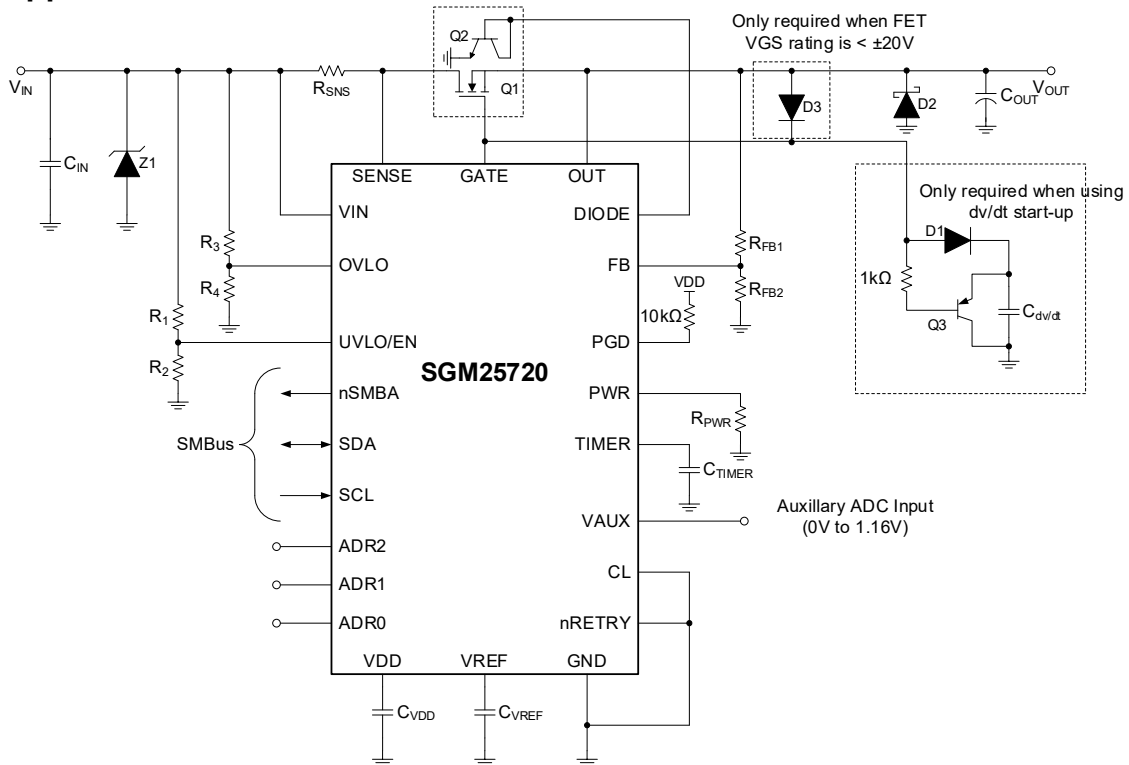

Figure 10. Typical Application Circuit
- A VGS rating of ±20V is required because the SGM25720 can drive the gate up to 16V above the source. Alternatively, for MOSFETs with a lower ±12V VGS rating, a protective diode (such as D3 in Figure 10) can be added to clamp the gate-source voltage and prevent overstress.